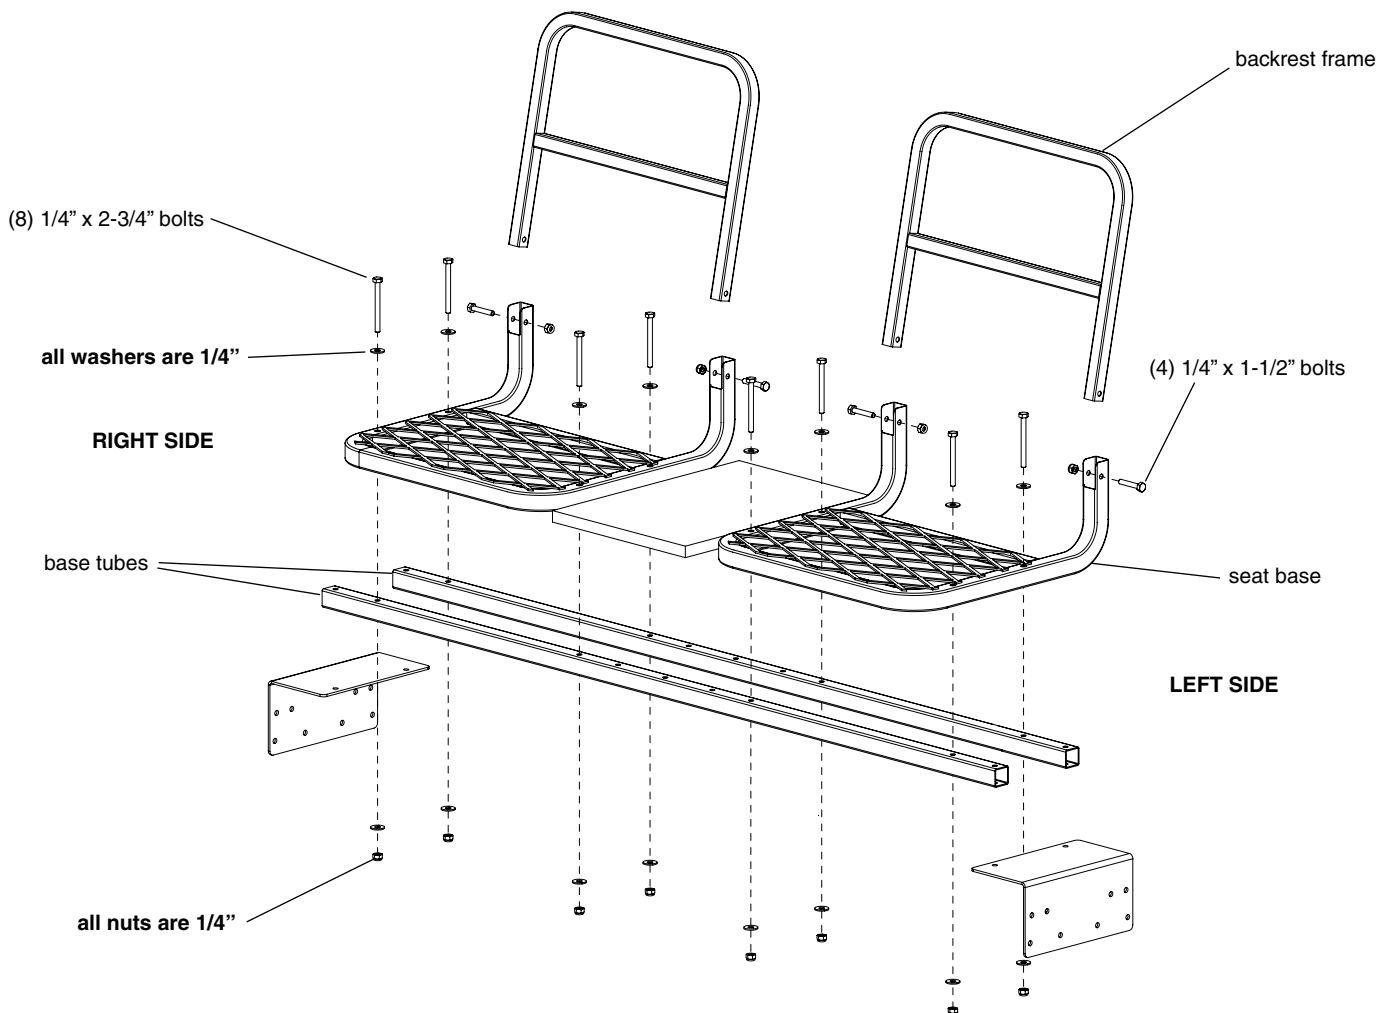

FIGURE 3B
5. Attach (2) seat bases (68435) to top of base tubes using (8) provided 1/4-20 x 2-3/4" bolts, nyloc nuts and (16) washers. **SEE FIGURE 3B.**
6. Attach backrest frame (68433) to each seat base using (4) provided 1/4-20 x 1-1/2" bolts and nyloc nuts. **SEE FIGURE 3B. You may now tighten all nut & bolt assemblies. Be sure not to over tighten or crush tubing when tightening!**
7. Attach (2) removable seat cushions (68162) to the top of seat bases and snap the side release buckles together. Pull straps tight so seat is not loose.
8. Attach (2) removable backrest cushions (68163) to the backrest frames and secure with Velcro.